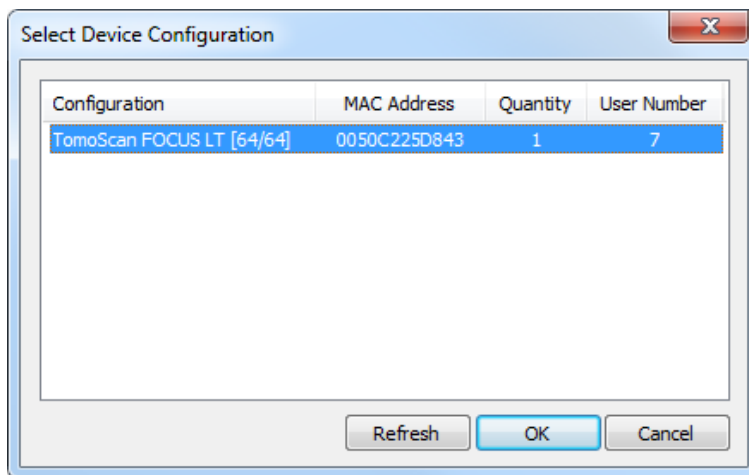

Figure 1-23 Example of the Select Device Configuration dialog box
6. When you start the **Inspection** edition, the **Select Device Configuration** dialog box appears (see Figure 1-23 on page 43). In the dialog box, do one of the following: